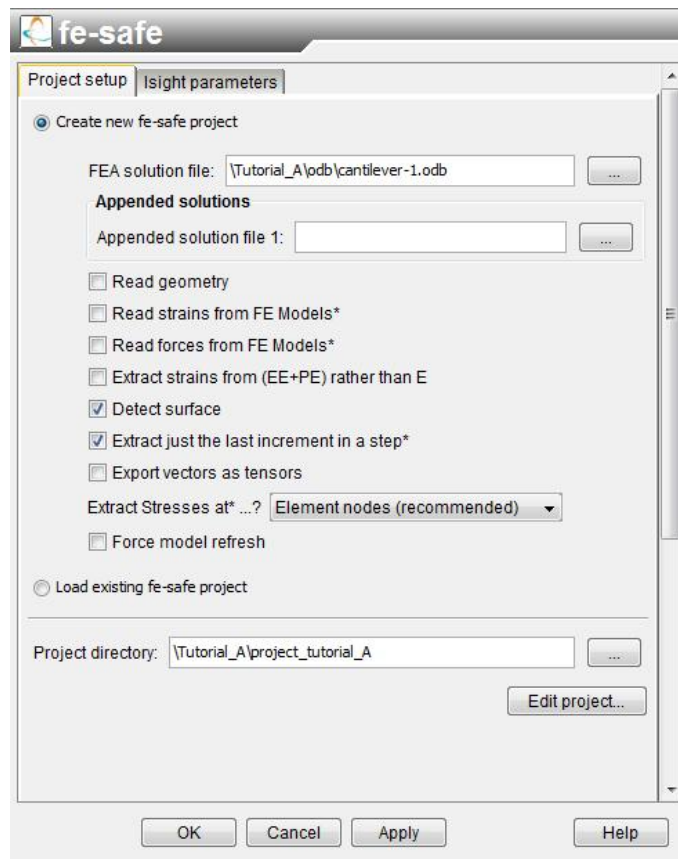

Figure 5-5: The *fe-safe* component with selected solution file and default project directory
- 4) Click the button next to **Project directory**;, navigate to the folder containing the three folders Isight, odb and project_tutorial_A - highlight project_tutorial_A and click **Open**. Your dialog box should now resemble that of Figure 5-5.